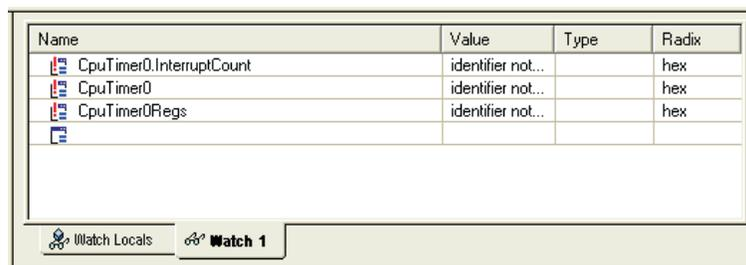

Figure 4. 280x CPU Timer Example Watch Window
- Step 7. To monitor variables of interest in the project, Go to the GEL menu-> DSP280x CpuTimerExample-> Load Setup_WatchWindow. The Watch Window will appear in the lower right-hand corner of the Code Composer Studio window with some CPU Timer variable names as shown in Figure 4. This can also be accomplished by highlighting any variable name in the source code, right-clicking on it, and selecting "Add to Watch Window".